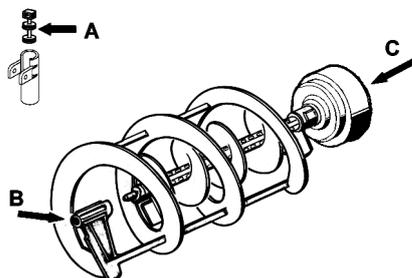

figure 14
- 1 Lubricate faucet piston, inside auger and outer spiral (see points A, B and C of figure 14) only with the grease supplied by the manufacturer or other **food grade approved** lubricant.